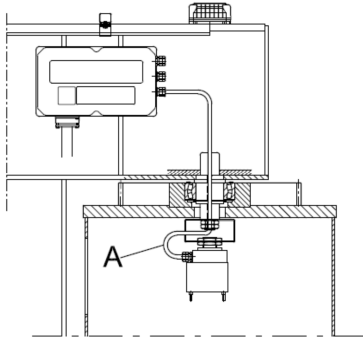

fig.39
1. Connect the shortest cable **A** of the rotating collector ring to the rotation control electric panel passing it through the rotation pin hole attached to the arm. (fig.39)